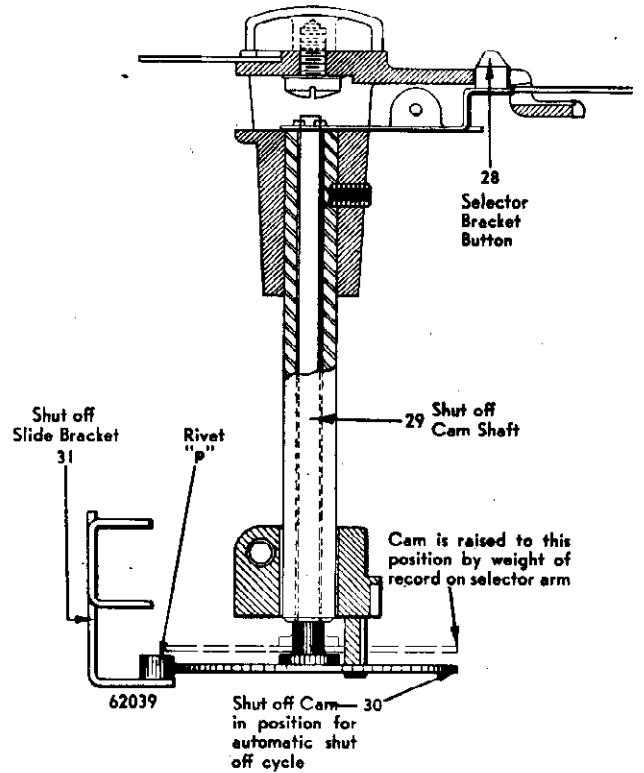

FIG. 11. CUTAWAY—SIDE VIEW
- b. Vertical clearance—There must be sufficient vertical clearance when either a 10" or 12" record is placed on the selector arms. The cam must be raised above the stud on the shutoff slide bracket so that there is no engagement between the two as the changer starts into a change cycle (See fig. 11)
5. Just at the end of the drive gear cycle, the stud "r" engages the shutoff bracket (32), moves the latter to its extreme outer position, and through the locked shut off dog (37), moves the shutoff lever (40). This latter movement forces the control slide (1) into the "OFF" position and turns off the power switch (2). The completion of the drive gear cycle permits the shutoff bracket (32) to resume its rest position. As the shutoff lever (40) moves to the rest position, the shutoff dog (37), pivoted thereon, is caught by the shutoff trip (36) and reset in its rest position.